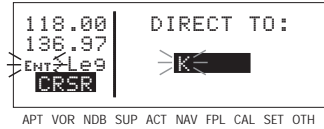

Figure 4-87
2. Rotate the right inner knob to select the first character of the desired waypoint's identifier, in this case, a "K" (figure 4-87). Remember to enter the "K", "C", or "P" prefix for certain airports in North America, if required (see section 2.3, "ICAO Identifiers").